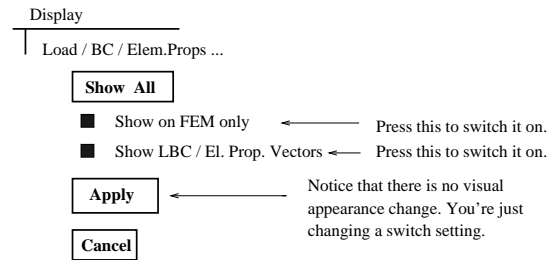

Figure 28: Switch Display On
**Figure 28** shows how to switch the display on.